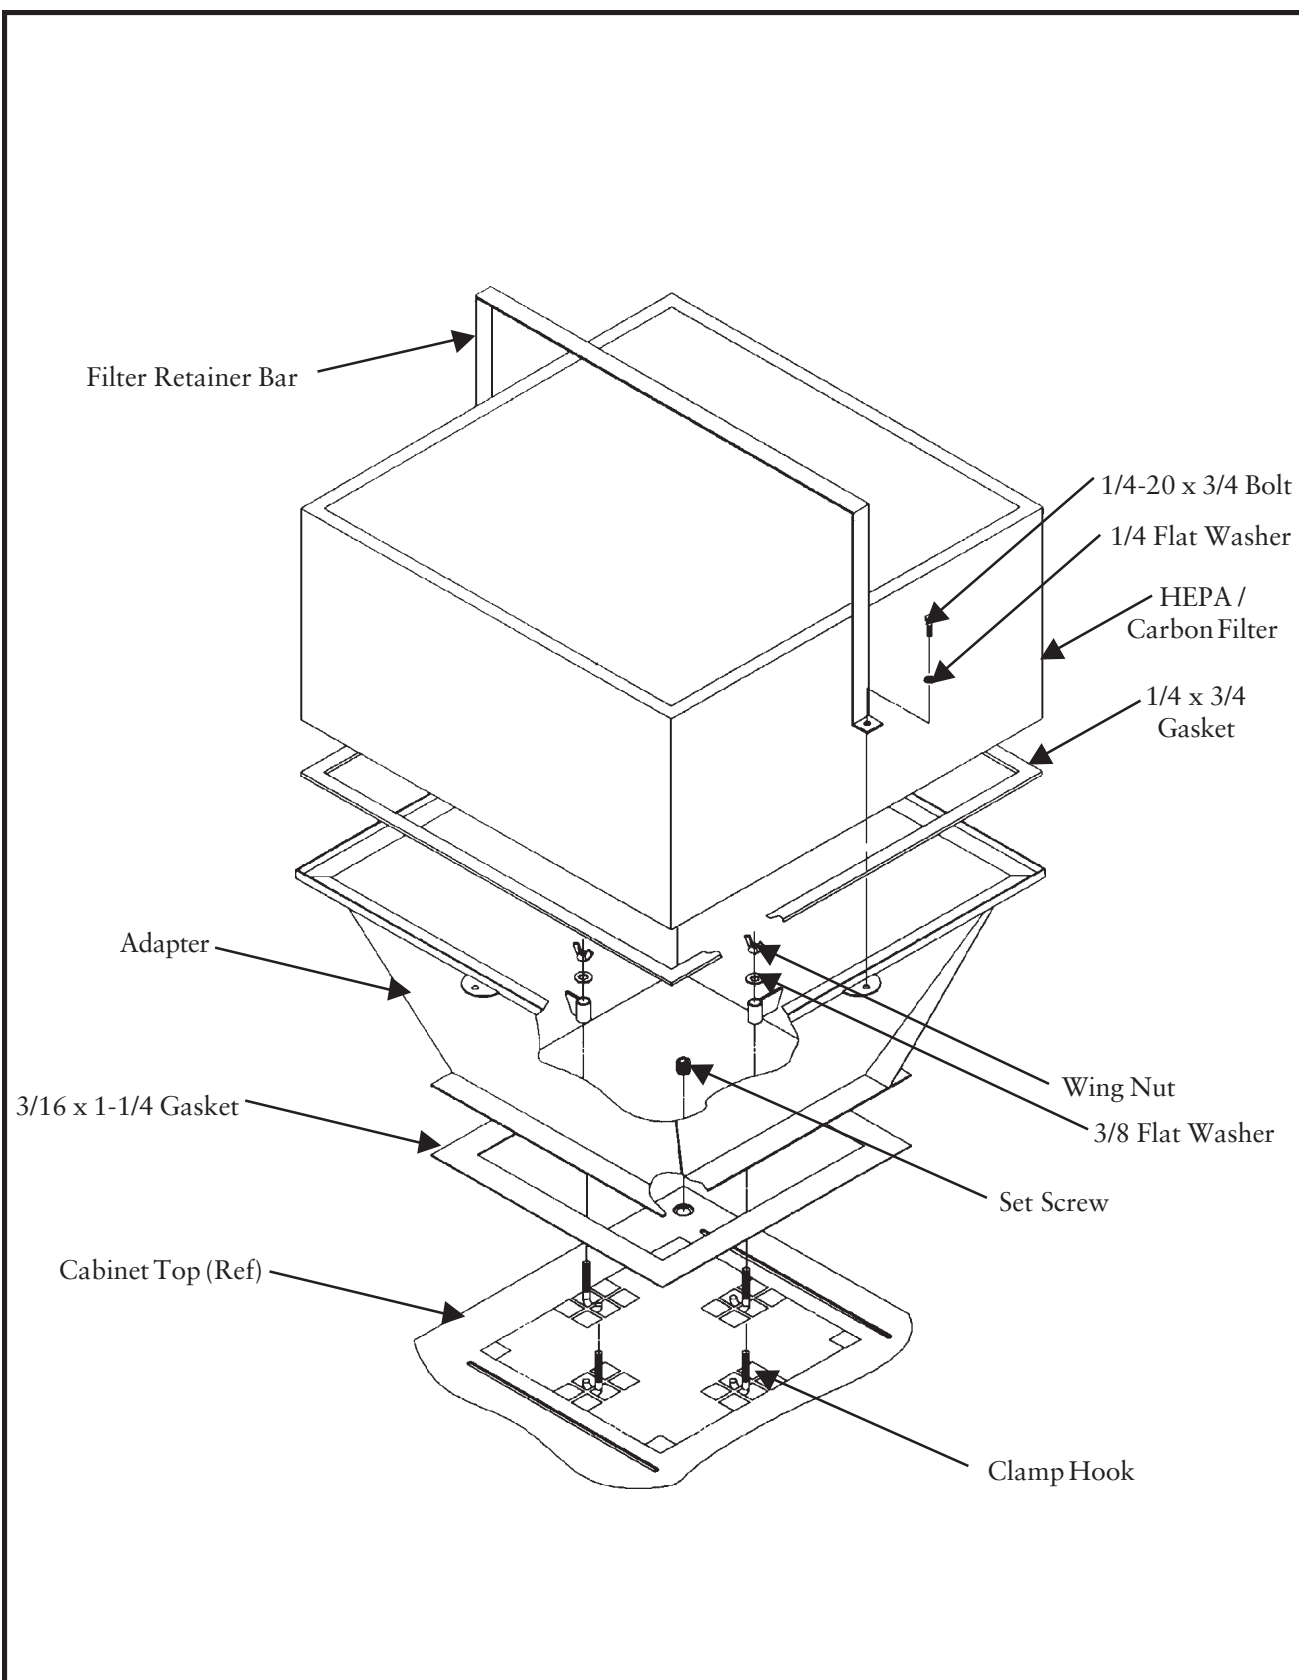

Figure 8
2.5.6 Adapter HEPA / Activated Carbon (See Figure 8 Adapter Pack HEPA / Activated Carbon)